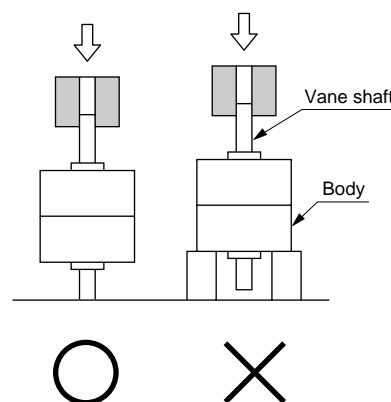

Fig.3
- When installing a load or jig, etc., on the rotary actuator vane shaft, check that load is not applied as shown in Fig. 3.